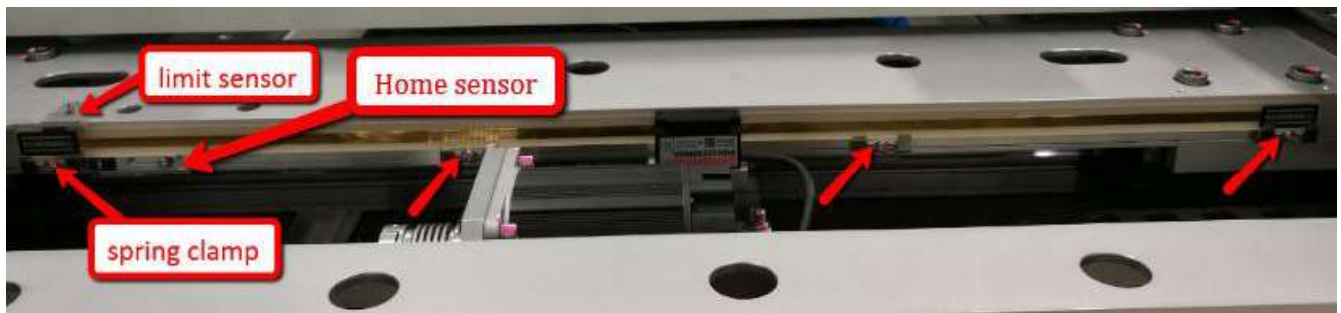

Figure 9 Glass scale replacement
3. Assemble limit sensor and home sensor by refer to origin location (By refer to Step 4). Tighten all screws which secure spring clamp as shown in Figure 9.